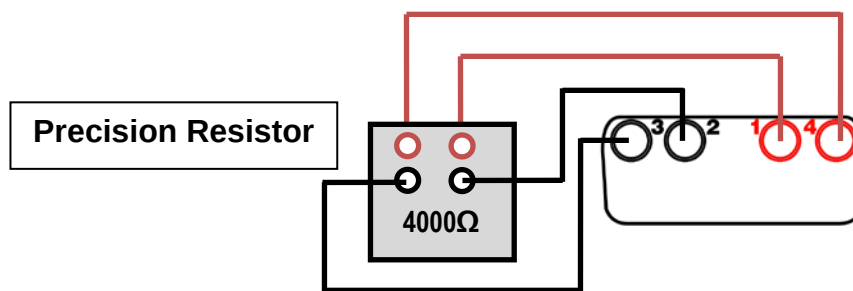

Figure 2 (Read OHM)
2. Connect a precision 4000 Ω standard resistor or decade box to the UUT (See Figure 2).